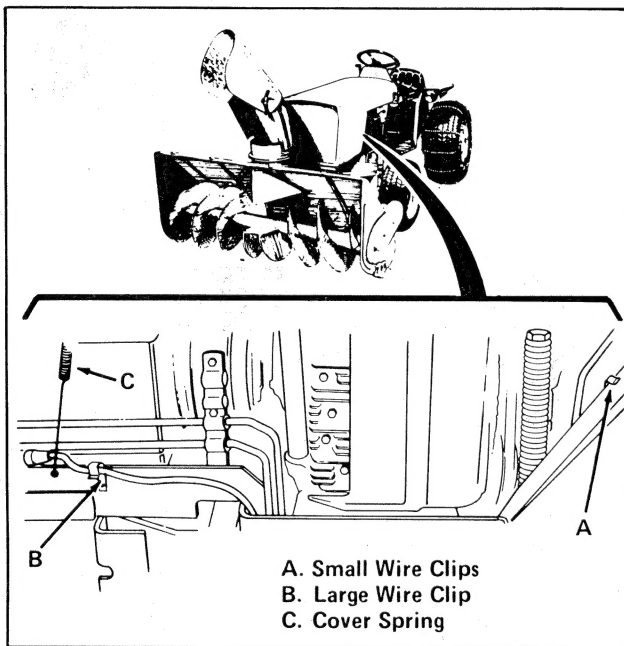

Figure 26. Routing Wiring Harness
13. Install the smaller of two wire clips (item A, figure 26). Use the larger clip (item B) to fasten wire to outside of frame. The end of wire with connector can be stored behind the battery cover spring (item C).